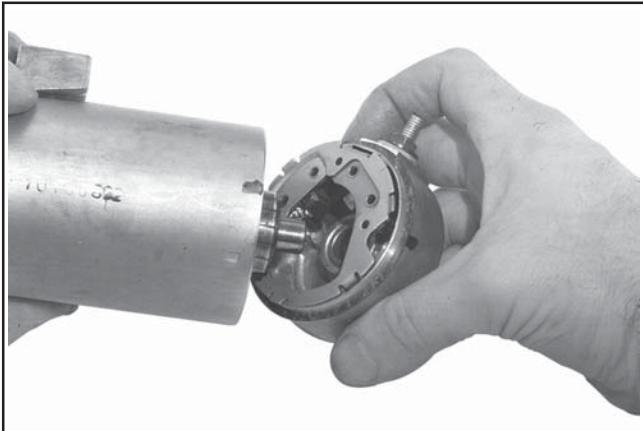

Figure 8-53. Installing End Cap Assembly.
- Assemble the end cap assembly to the starter, inserting the commutator below the brushes and gently guiding the end of the armature shaft into the bushing within the end cap, against the brush spring tension. See Figure 8-53.